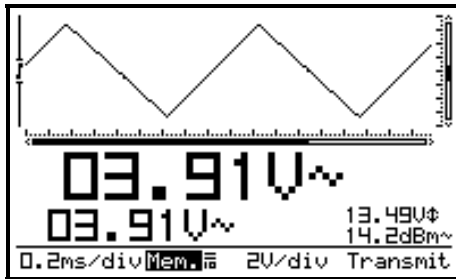

Fig 46
„Transmit“ (1) is displayed briefly during the file transmit. (Fig.46)